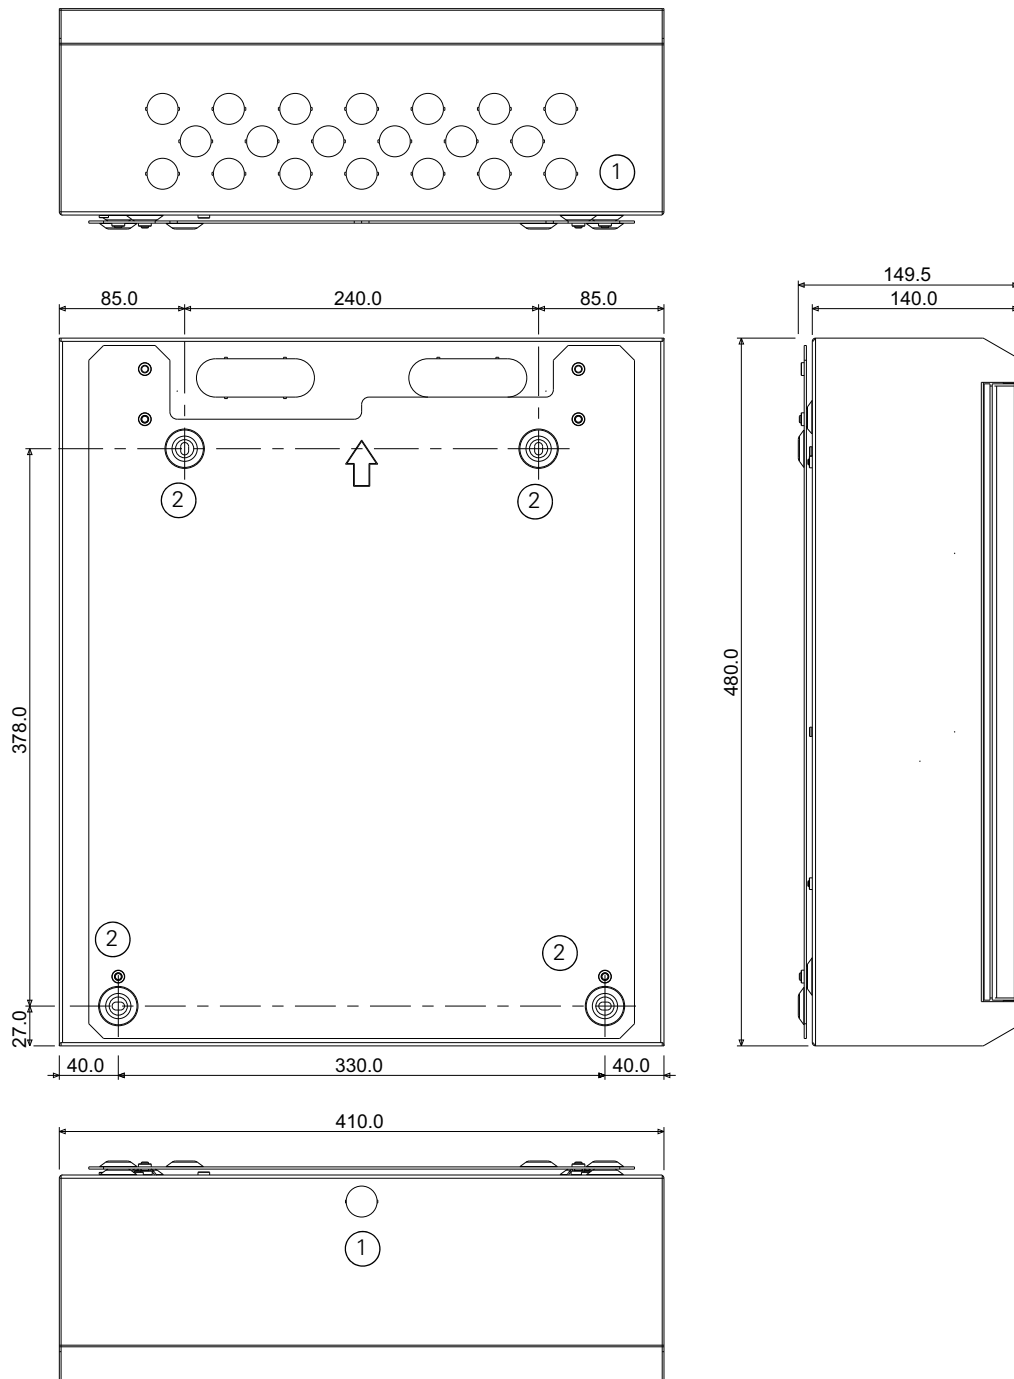

Fig. 14: FireClass Single Loop Panel Shallow and FC8AS FireClass AC Repeater - Overall and Fixing Dimensions Knockouts
- Hold the mounting plate up to the wall and mark on the wall a position for the upper mounting hole. Make sure that the plate is the right way up. See the arrow pointing upwards on the mounting plate. Refer to Fig. 14.